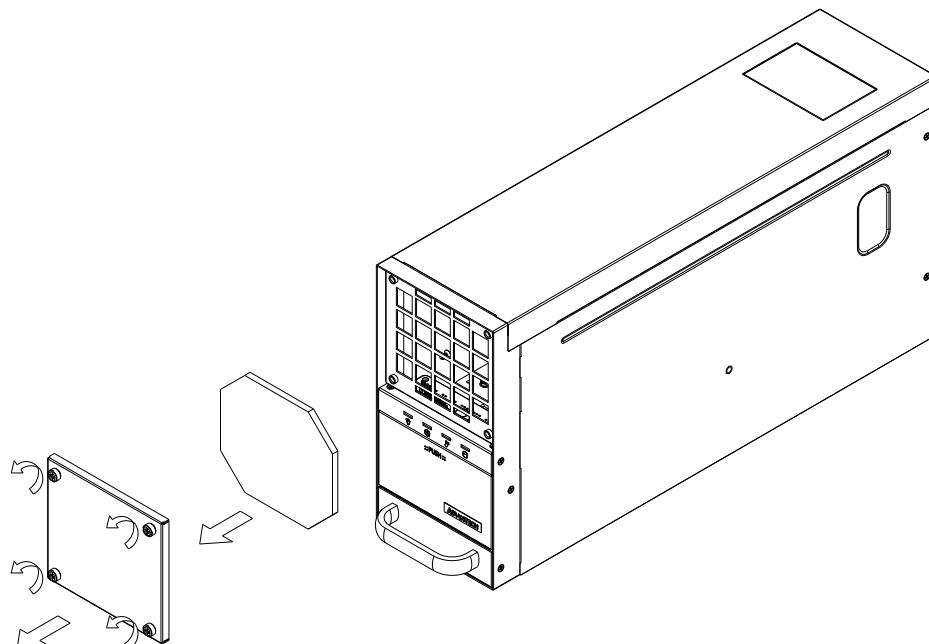

Figure 3.5 Replacing the filters/ 更換濾網 / 更換濾網
4. Replace them inside the unit and fasten the thumbscrews on the iron net (see Figure 3.5).
4. 将滤网与铁网罩放回原处并用螺丝固定好，如图 3.5 所示。